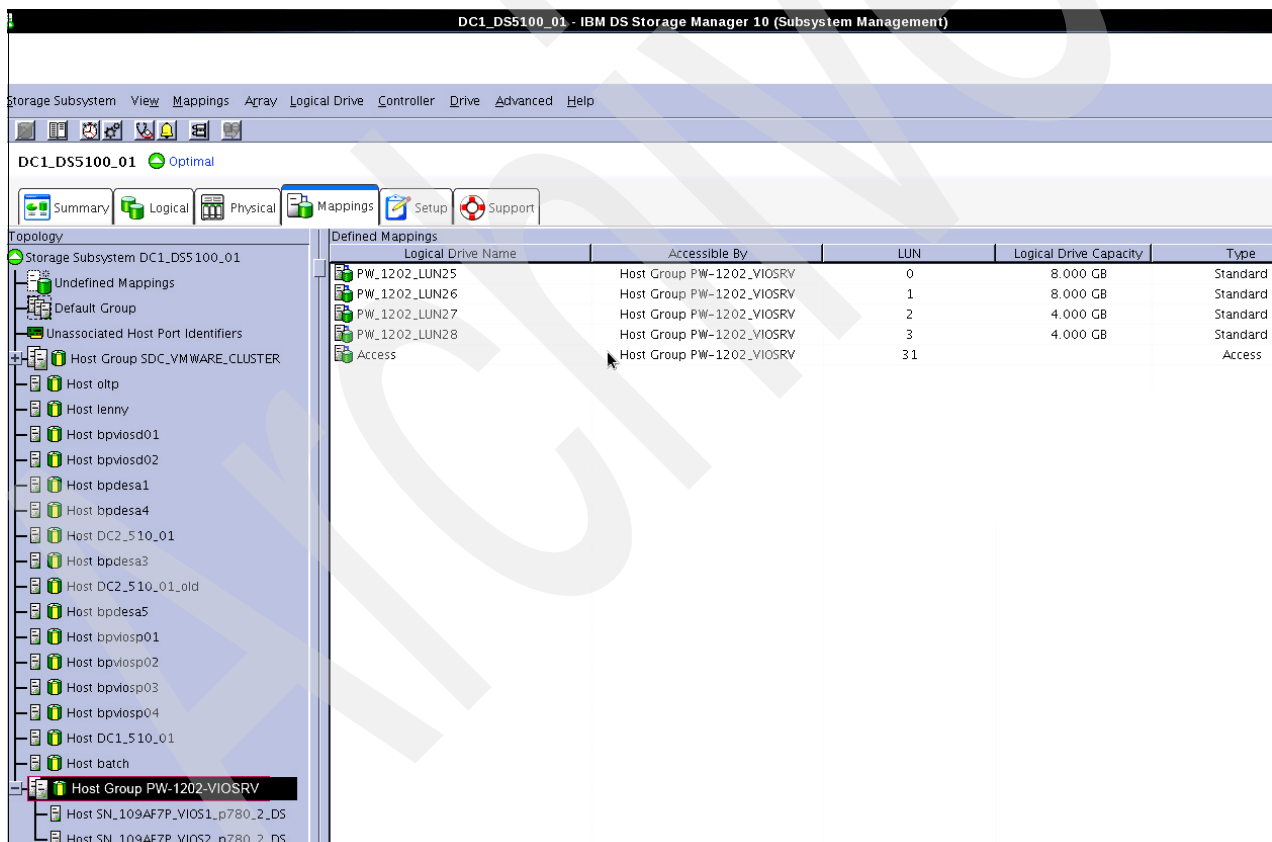

Figure 6-37 Paging space creation
1. As shown in Figure 6-37, create your paging spaces in the SAN and assign them to both VIO servers in the first server and to both VIO servers in the second server.